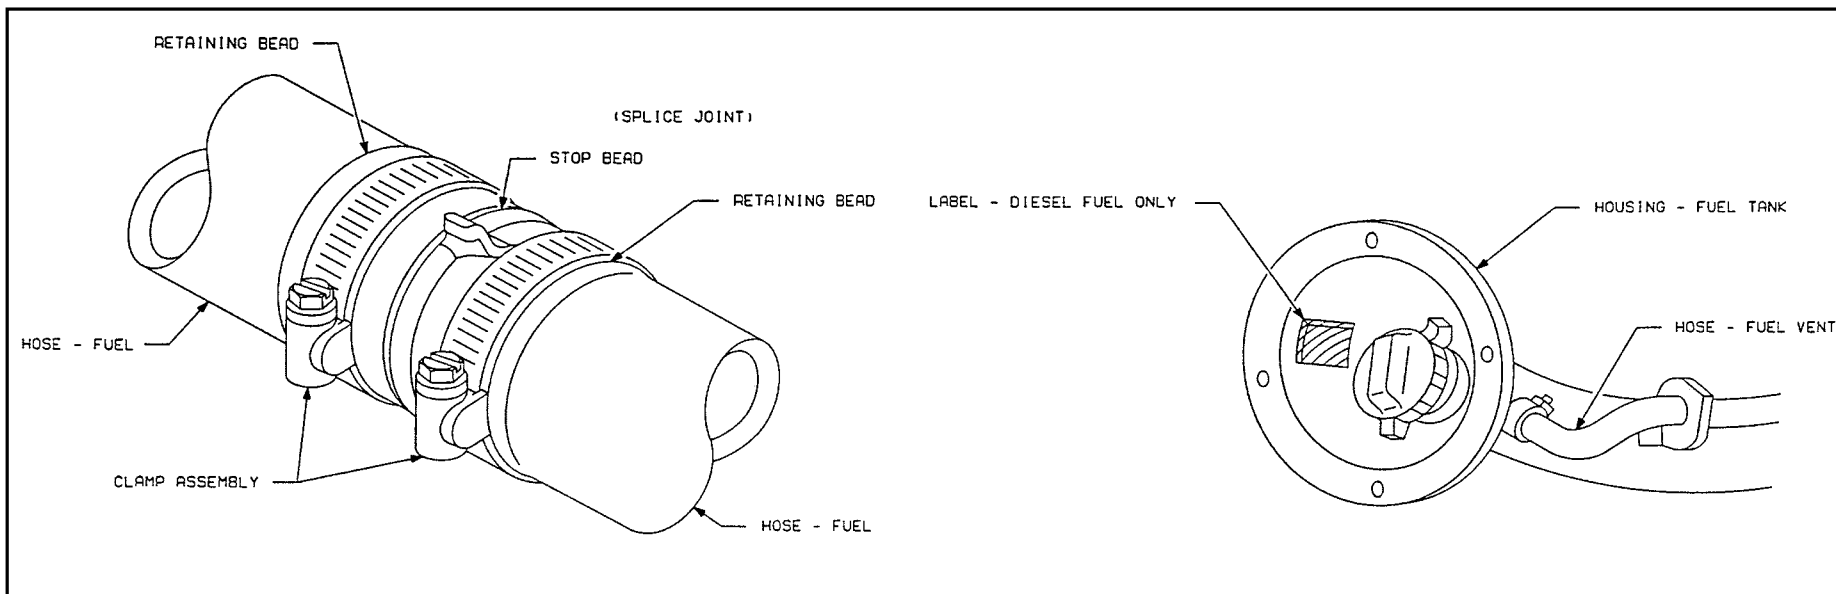

Figure 30
- Before adding extensions, clamp remaining fuel lines to prevent contamination during vehicle conversion (Figure 30).